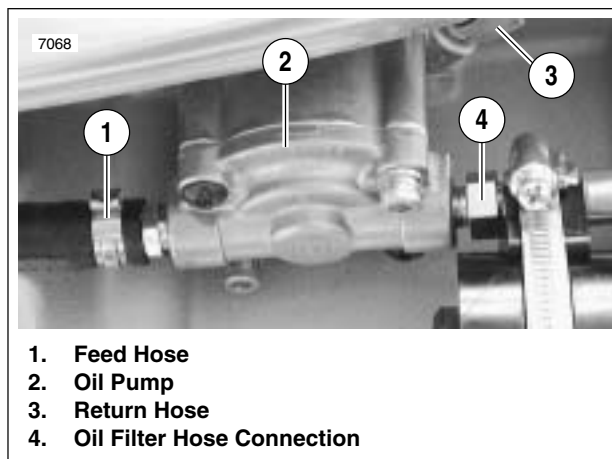

Figure 3-46. Oil Pump Connections
See Figure 3-46. The feed (1) and return hoses (3) run together between the swingarm mount block and crankcase, beneath the engine and forward to the oil pump. The feed hose attaches to the rear most oil pump fitting; the return hose connects forward and above. To prevent unnecessary wear, the hoses have a fitted cover.